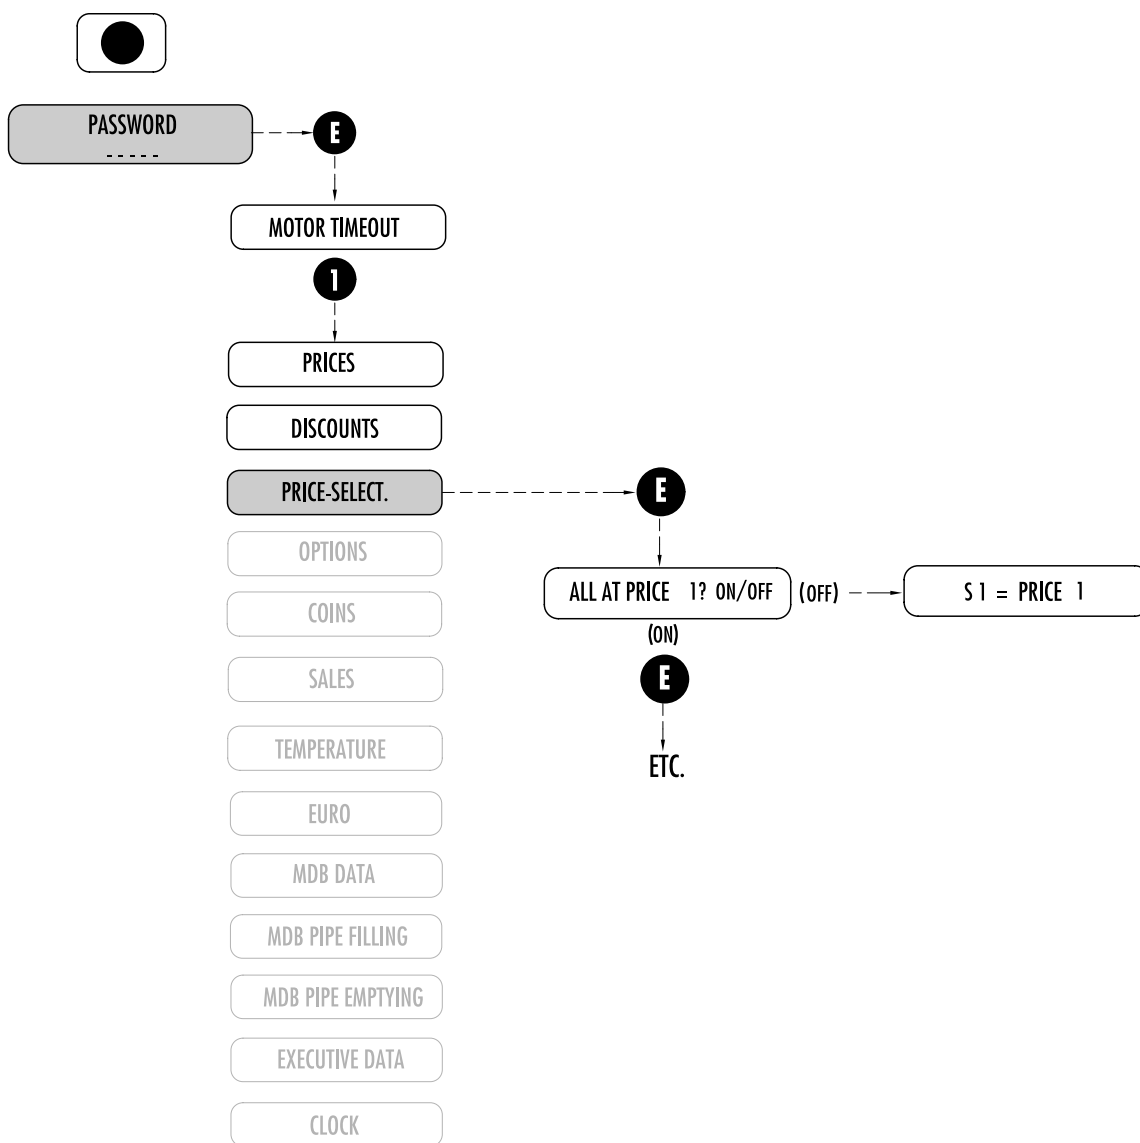

Fig. 7.7
7.2.4 PRICE SELECTION (Fig.7.7)